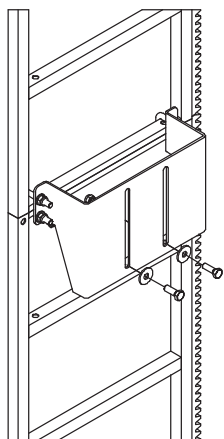

Fig. 11
6. While climbing up, tighten the connecting screw (M12) between the ladder rack anchorages and tower support brackets with a torque of 12 N·m for CE (50 N·m for AECO) (see Fig.11).